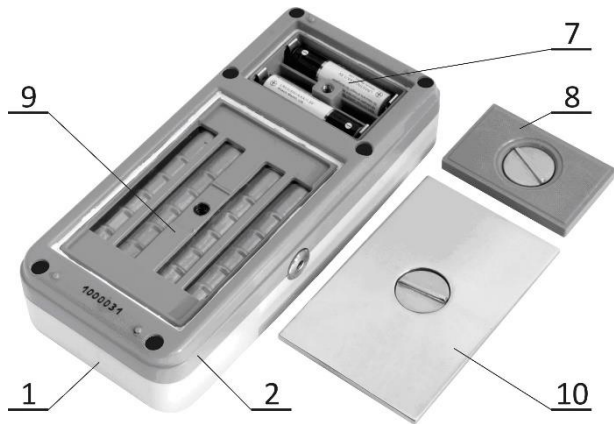

Figure 2 - External view of the radiometer (bottom view)
The lower cover (2) of the body (Figure 2) contains the battery compartment (7) with two batteries and the detector of gamma and beta radiation (9), which consists of four Geiger-Muller counters CBM-20-1. The counters are fixed to the lower cover and closed from the inside of the body with the metal energy compensated screen, fixed with two screws. From the outside the detector is closed with a transparent for beta particles polyethylene terephthalate film and a metal beta-filter cover (10) fixed with an original screw. Beta-filter cover is removed when beta-particles flux density is measured.